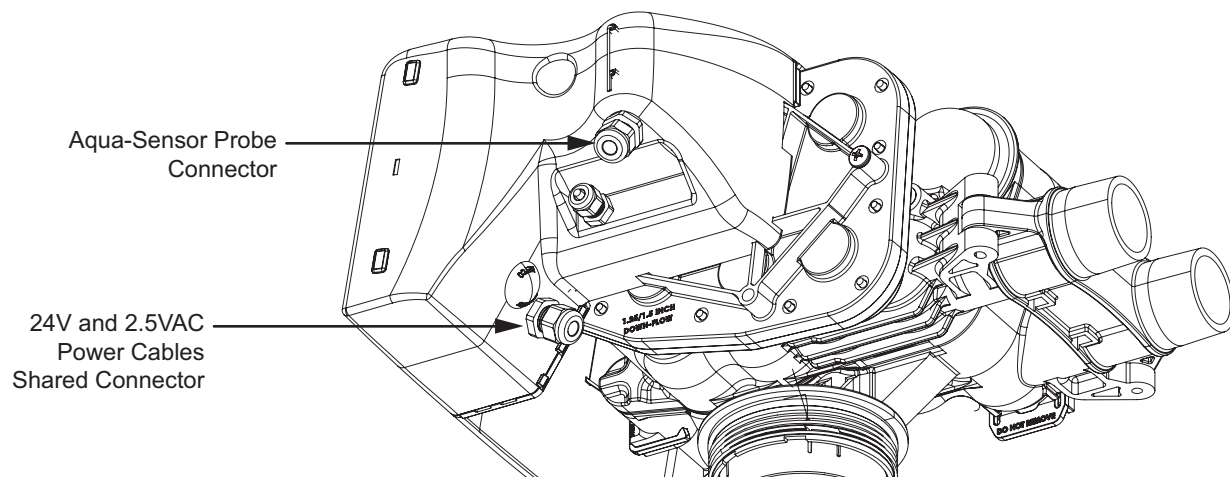

Figure 33. 24V Power and Aqua-Sensor connections on the controller.
8. Insert the 24V and 2.5VAC power cords through the shared bushing (P/N 01025264). See Figure 33.